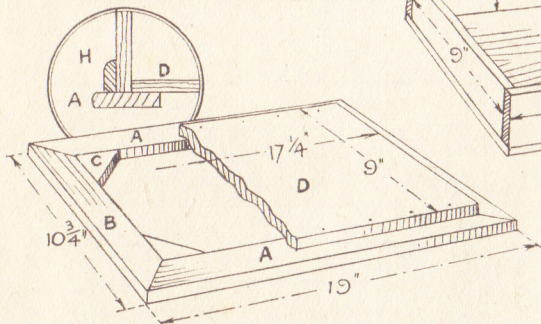
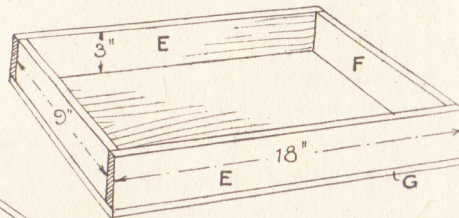
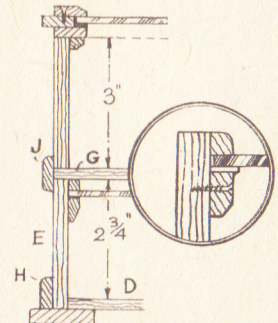

Fig. 2—Details of floor and base construction
Fig. 3—Framework of the case
Fig. 4—Section at end
The base of the lower case should first be set out and made, and in Fig. 2 this is shown with also a section of the floor screwed to it. Cut two pieces as (A) and two pieces as (B) all to length shown, by 1 $\frac{1}{2}$ ins. wide by $\frac{3}{4}$ in. thick. Cut the mitres to 40 degrees on all the ends using a set
As both cases are identical in size, four rails 18 ins. by 3 ins., and four rails 9 ins. by 3 ins. and all $\frac{3}{4}$ in. thick may be cut and framed together as shown in Fig. 3. This illustration shows the upper case with floor (G) attached and flush with the sides and ends all round. The lower case, however, will not of course have a floor this being already supplied as (D) in Fig. 2.
To strengthen the base, as well as to add to the appearance, a member as (H) in the enlarged diagram in Fig. 2 is added all round and mitred at the corners. The four pieces are $\frac{3}{4}$ in. by $\frac{1}{2}$ in. in section and are glued in place. This member is seen again in the cross section through one side at Fig. 4.
the enlarged view in Fig. 4. On these fillets will be glued strips of washleather or felt to form a bedding for the sheet of glass, the size of which should be taken direct from the made-up case.
form of an open frame. Each side of it is made up of three strips of $\frac{1}{4}$ in. thick wood glued or screwed together. A detailed corner view of the frame is shown in Fig. 4, with an enlarged sectional detail in the circle.
To the inside edges of the glass framing, fillets $\frac{3}{4}$ in. by $\frac{1}{2}$ in. with chamfered edges will be attached to hold the frame properly and rigidly in place, see the enlarged detail Fig. 4. Glass of about 21 oz. will be used for both top and lower case, the top glass again being bedded on either felt or washleather as shown.
This completes the making of the show cases, which can be lined and finished as previously suggested. To hold the cases together a fillet strip (J) is put round at the junction as seen in Fig. 4. The strips are $\frac{3}{4}$ in. wide and $\frac{1}{2}$ in. thick and they are glued at the angles of the top case and mitred and pinned to it.